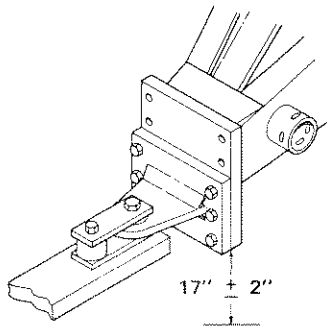
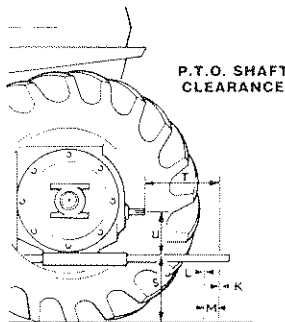

Fig. 1
Fig. 2
2. The front drawbar hitch on the baler is adjustable depending on the height of your tractor drawbar. The drawbar hitch can be adjusted up or down or turned over 180 degrees, see *Fig. 1*, to achieve the proper adjustment. Avoid serious equipment damage by following the S.A.E. Standards in *Fig. 2* and *Table 2*. Different dimensions are required depending on the size of tractor P.T.O. shaft to be used.
3. When hitching the baler to the tractor, follow the illustration in *Fig. 1*. The distance from the bottom of the baler hitch mount to the ground should be 17 inches with a 2-inch tolerance. Ensure all fasteners are tightened in their proper position.